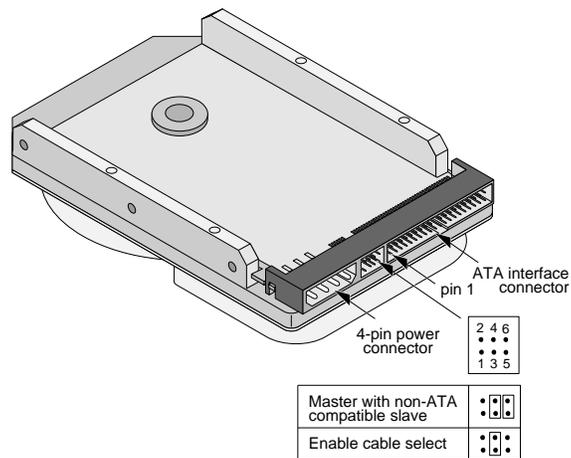

Figure 5. Non-ATA compatible and cable select jumpers
If your computer does not recognize your new drive as a master in a two-drive system, the slave drive may not be ATA-compatible. You may be able to solve this problem by installing jumpers on pins 3 and 4 and on pins 5 and 6, as shown in Figure 5.
Some computers differentiate between master and slave drives using specially designed interface cables that have the line to pin 28 (the Cable Select pin) removed or cut at one connector. The connector that has pin 28 disabled is used for the slave drive. See your computer manual to determine whether your computer supports this feature. To configure your Seagate drive for cable select, place a jumper on pins 3 and 4 as shown in Figure 5 on page 17.
- If the drive is to be the master drive with a non-ATA-compatible slave, set the jumpers on the drive as shown in Figure 5 on page 17.